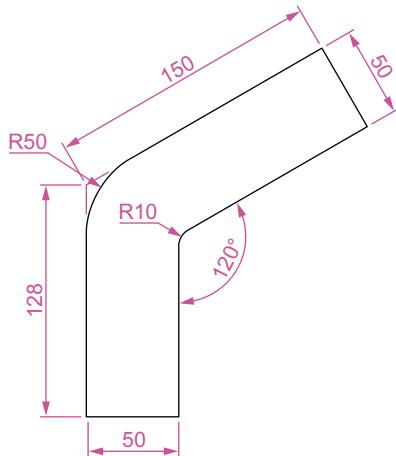

Fig. 17.22 Second example – 2D outlines in 3D space. Outline to be extruded
1. Place the drawing area in the **ViewCube/Front** view, **Zoom to 1** and construct the outline (Fig. 17.22).